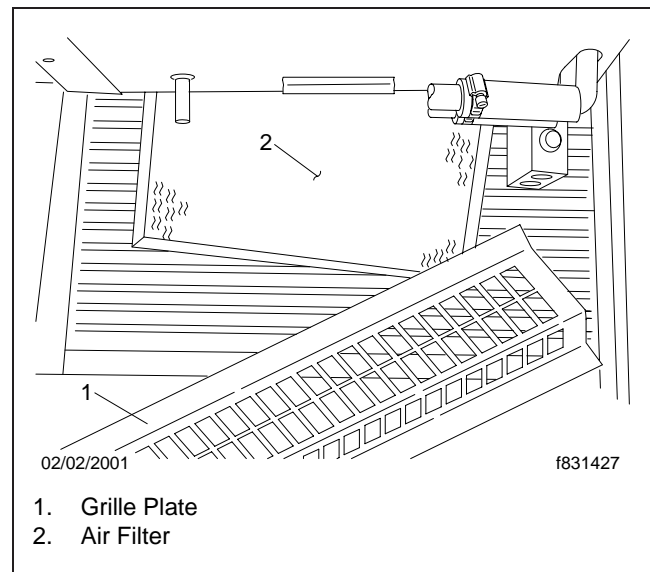

Fig. 3, Air Filter Removal
5. Slide the filter out of the housing. See **Fig. 3**.